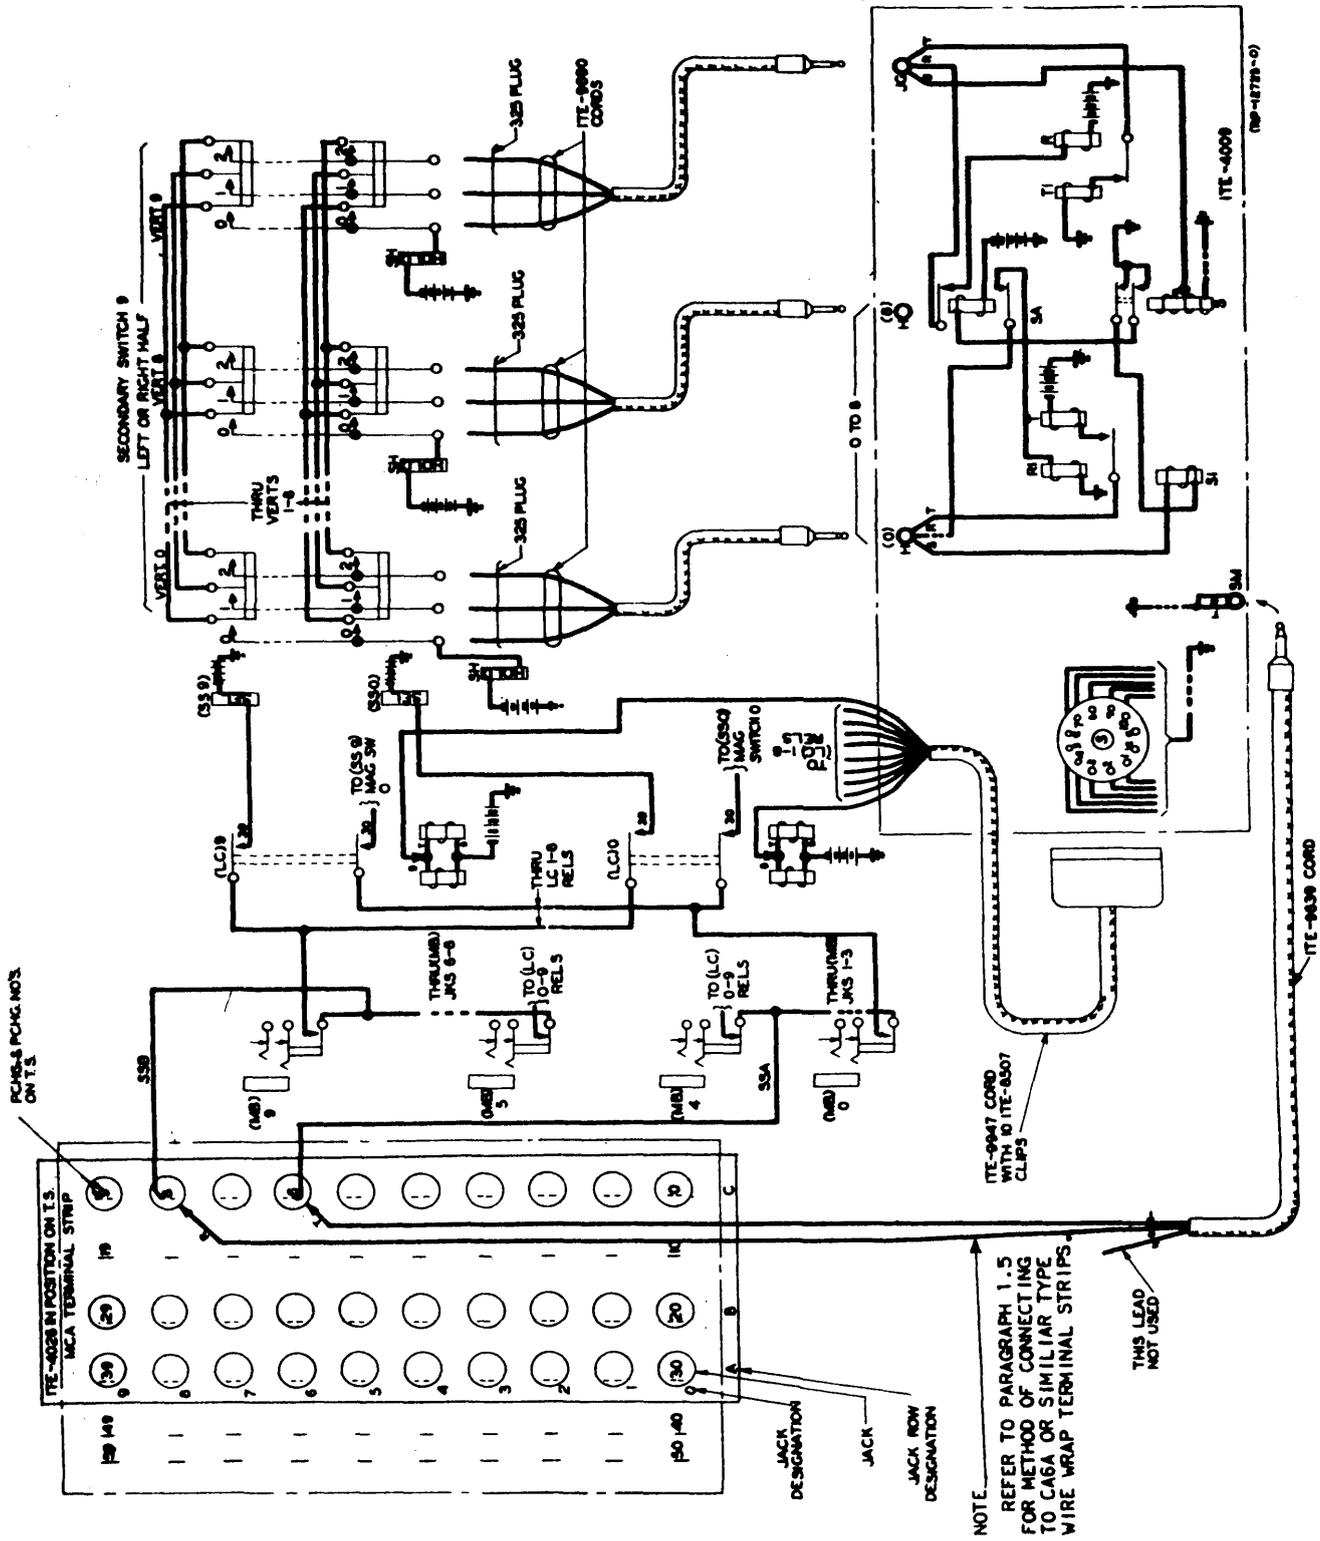

FIG. 3 SETUP FOR SECONDARY SWITCH CROSSPOINT TEST
10.21 Setup for Test (See Figure 3)